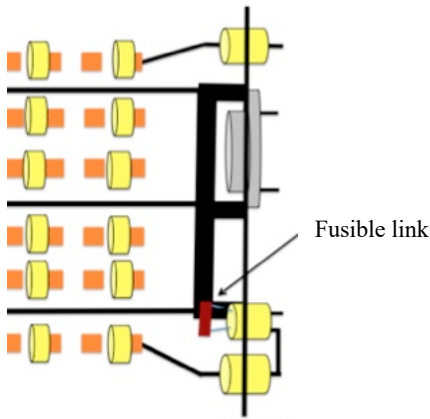

Figure 4
3. Slide electric heater element into cabinet (**making sure the FUSIBLE LINK is located at the bottom of the heater coil**) and fasten using 2 – 8 x 1/2" screws (see figure 4). Before installing element into cabinet make sure to pick the side that will allow the easiest access to the electrical connections after the add-on cabinet is connected to the gas furnace. On VERTICALLY mounted furnace power head is on top of plenum.
9. After installing heater element (see figure 4) be sure to insert support rods in to blank plate on the opposite side of the plenum using the and secure in place with 6 x 3/8" sheet metal screws (be sure to install element so access to electrical connections is possible)